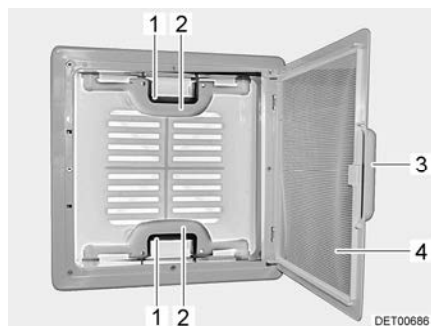

Fig. 73 Skylight with snap latch
- Pull on the handle (Fig. 73,3).
- Fold insect screen (Fig. 73,4) downwards.
- Push the snap latch (Fig. 73,1) towards the inside of the skylight. At the same time use the handle (Fig. 73,2) to press the skylight upwards.
- Swing insect screen (Fig. 73,4) upwards until it latches in place.
- Using both handles (Fig. 73,2), pull down the skylight with force until the two snap latches (Fig. 73,1) lock into place.